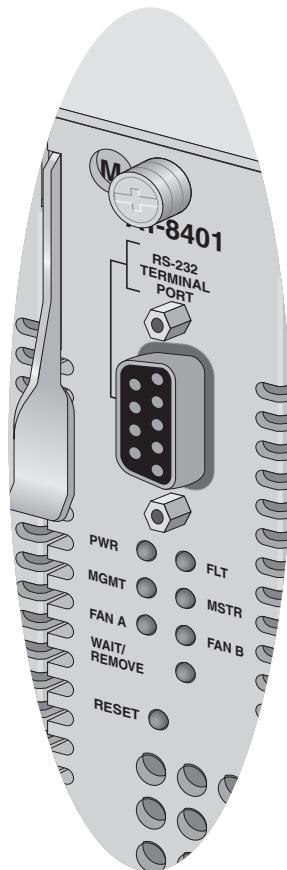

Figure 32 AT-8401 Management Card LEDs
4. Check the WAIT/REMOVE LED on the AT-8401 management card. See Figure 32 below.